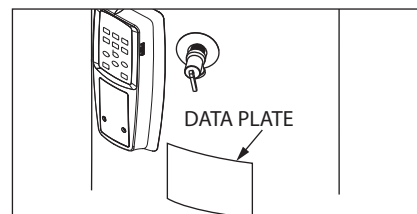

Figure 23 - The water heater's electrical requirements can be determined from the data plate.
- 3 Check the hot water storage tanks data plate (Figure 23) and ensure that the home's voltage, wiring size (ampacity) and circuit breaker rating and type are correct for this hot water storage tank. Refer to the wiring diagram located on the water heater, and on page 33 of this manual, for the correct electrical connections. Ensure that it is a common three prong outlet.